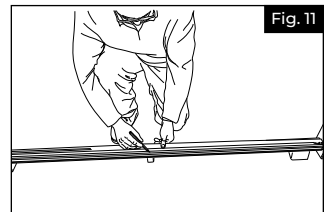

Fig. 11
- a. Cut the bottom rail support (M) to the bottom space determined in Step 2 and place it under the bottom beam at the center point (Fig. 11 and 12).